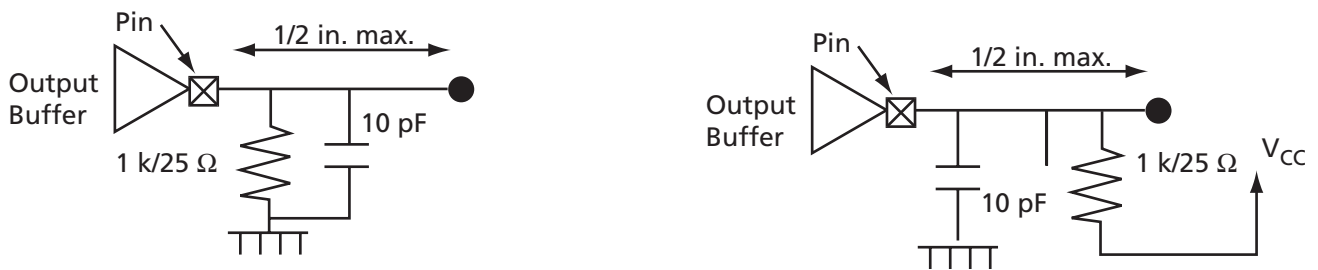

Figure 2-10 • 3.3V PCI Output Loading
3. This parameter is to be interpreted as the cumulative edge rate across the specified range, rather than the instantaneous rate at any point within the transition range. The specified load is optional (Figure 2-10); i.e., the designer may elect to meet this parameter with an unloaded output per the latest revision of the PCI Local Bus Specification. However, adherence to both maximum and minimum parameters is required (the maximum is no longer simply a guideline). Rise slew rate does not apply to open drain outputs.